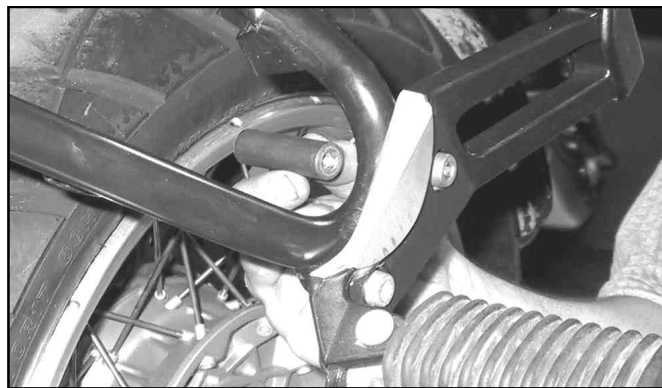

Figure 4
2. Install the Standoff to threaded end of the M8 x 25 Screw. **Fully tighten by hand. Figure 4.**